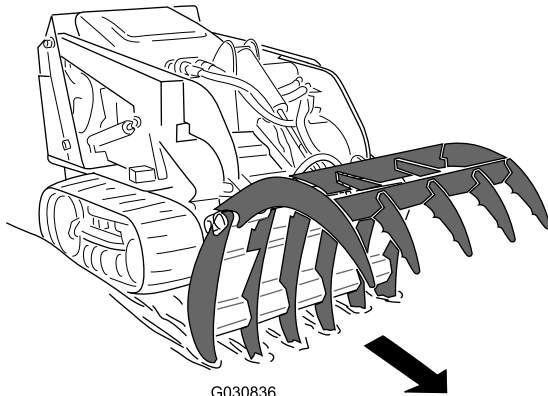

Figure 6
1. Open the jaws and lower the lower jaw teeth into the ground (Figure 6).